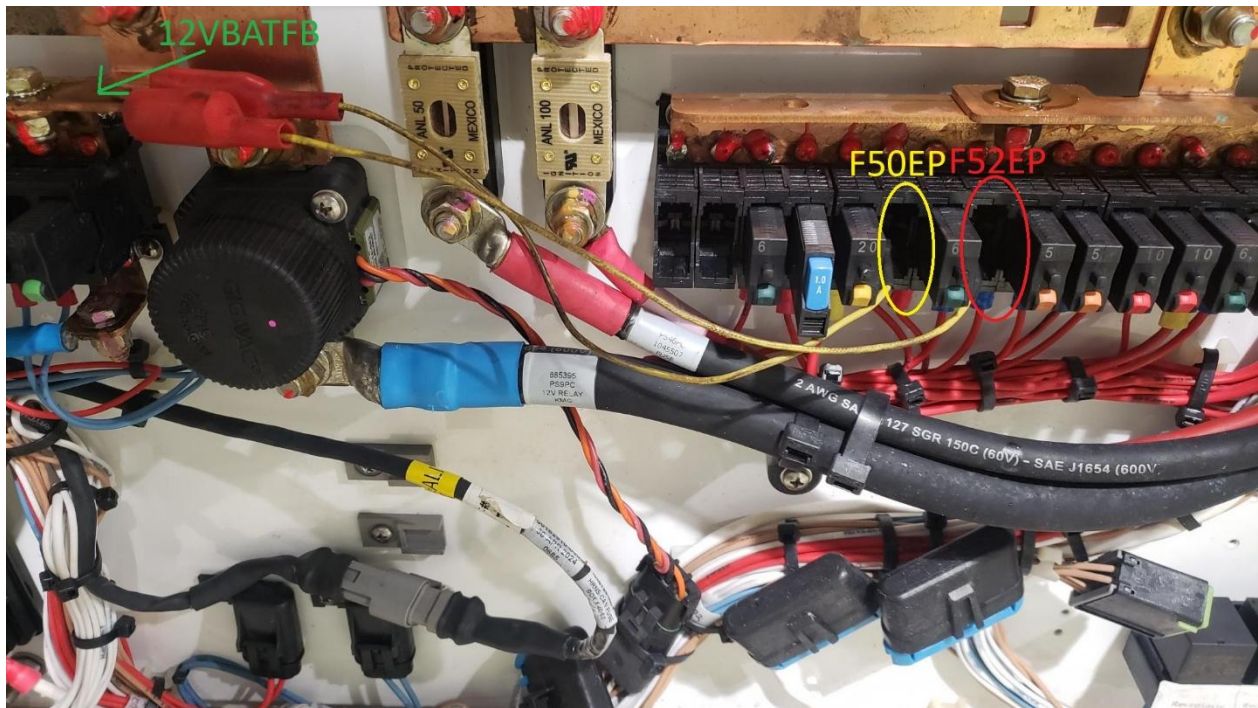

Figure 1: Connect F50EP and F52EP to 12 V bus bar
7. Connect alligator clip ends of both jumpers to 12 V bus bar in LV junction box (12VBATFB). See figure 1 below.